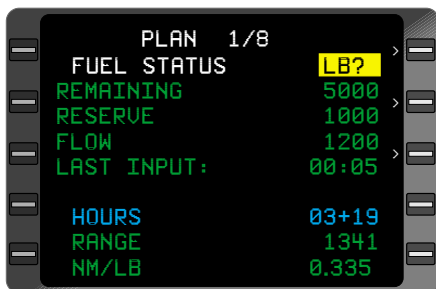

Figure 3-155
- b. **BACK** Key - DEPRESS. The field will display **LB?** or **KG?** to notify the pilot of the pending change. (Figure 3-155)